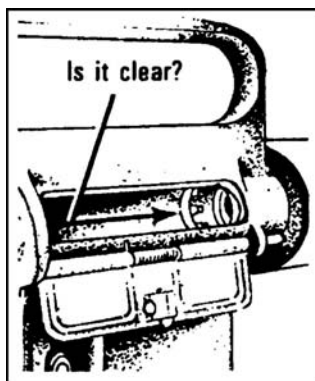

Figure 071-311-2027-002. Inspecting the chamber
- f. Insert the magazine, pushing it upward until the magazine catch engages and holds the magazine (figure 071-311-2027-3).